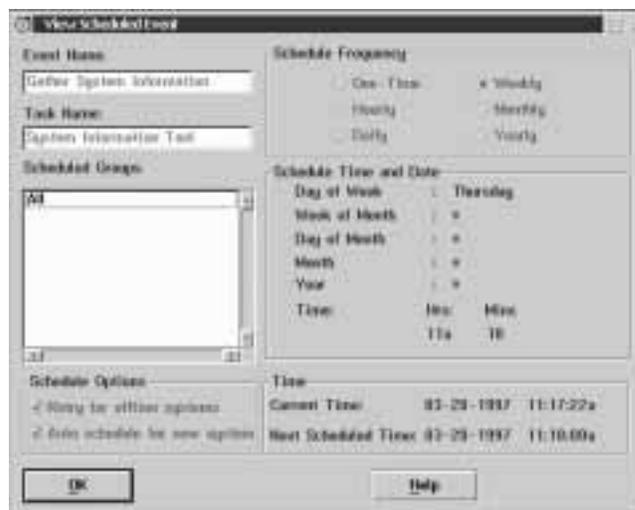

Figure 49. The View Scheduled Event window
2. Select **View**. This opens the View Scheduled Event window (see Figure 49 on page 146).